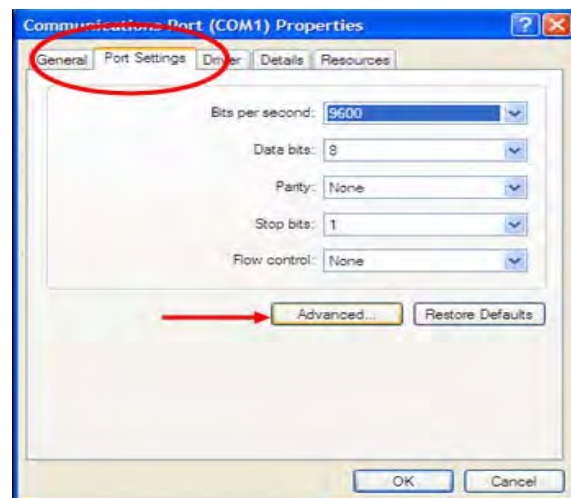

Figure 6
- In the Properties window select the **Port Settings** tab and then click the **Advanced...** button. (Figure 6)